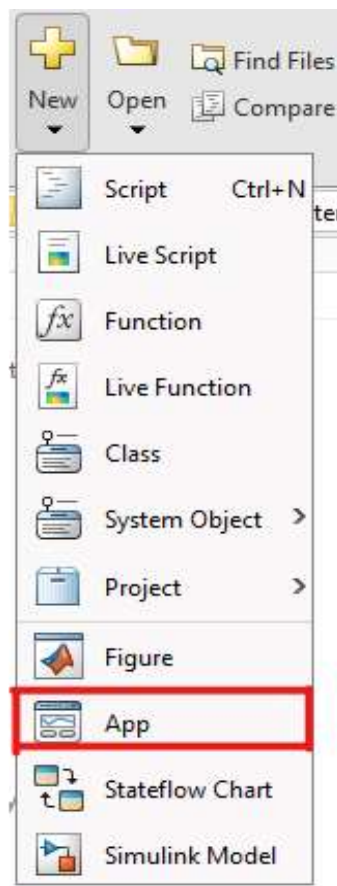

Figure 3: Drop Menu on the New Button
3. Now, the drop-down selection will look like the following. Choose/ Click on the App from the List which is shown as highlighted in the Figure 3.